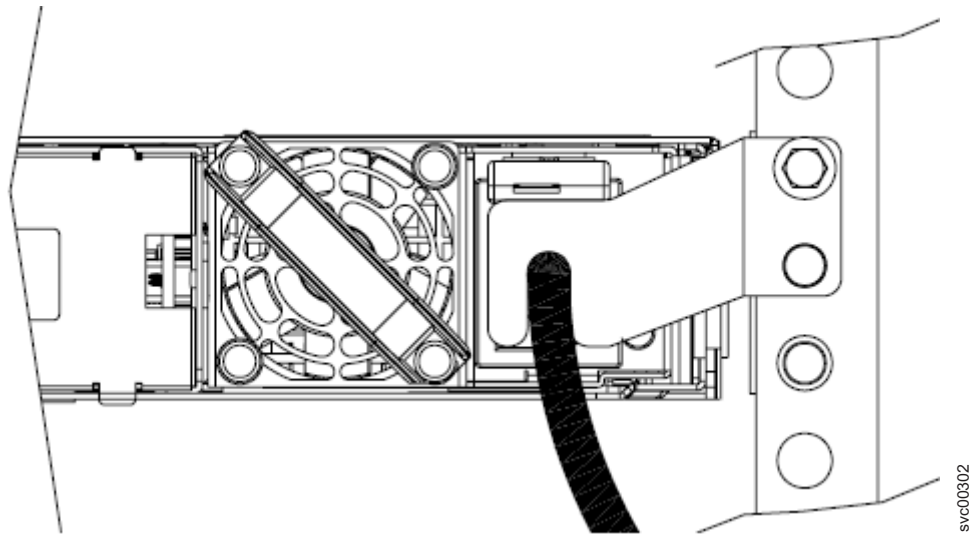

Figure 107. The SAN Volume Controller 2145-8G4 with cable retention bracket option B attached
1. Remove the securing bolt from the node side rail (shown in Figure 107) next to the power supply.
2. At the back of the cabinet, remove the securing bolt from the node side rail next to the power supply, as shown in Figure 107.